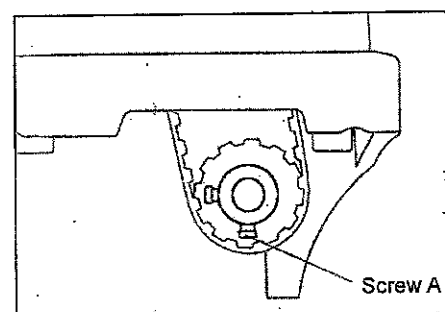

Fig.20
29、 Install synchronous belt(Fig.20)